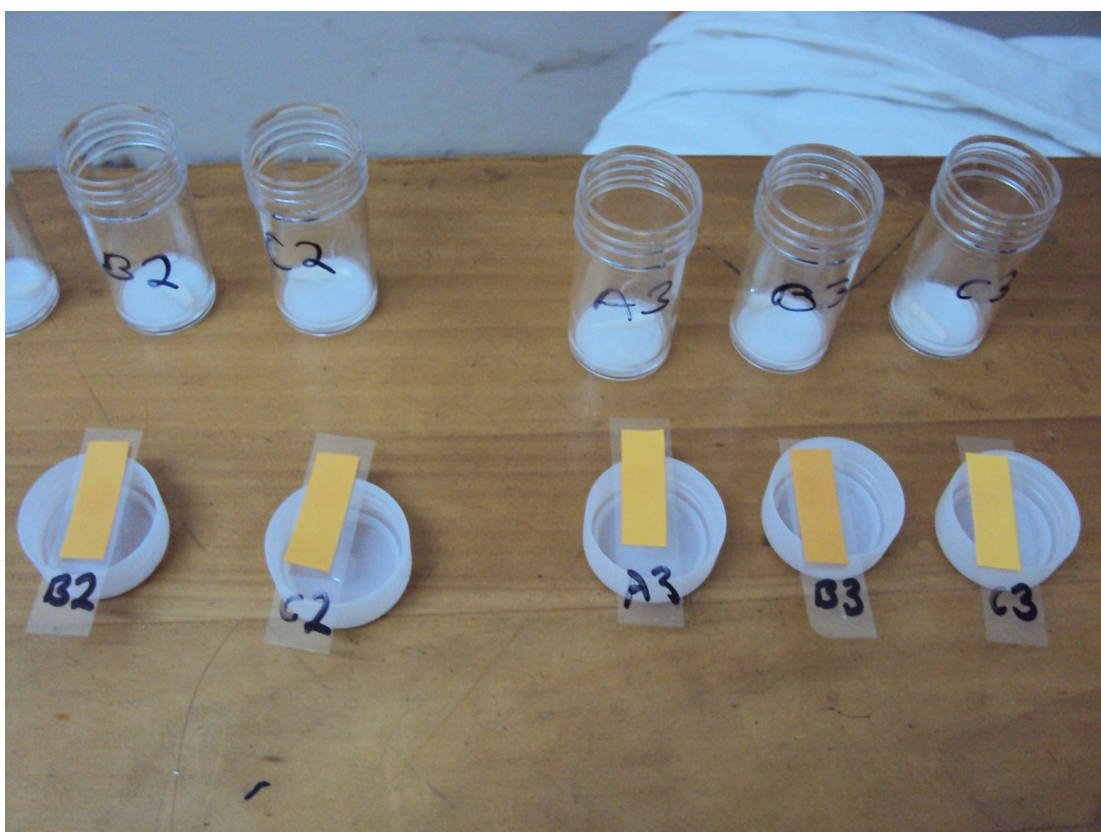

Figure 5: Labelled picrate papers that were left to dry on screw cap lids
- Once dry you should label the picrate papers, by placing their ID mark on the plastic sheet (Fig. 5).